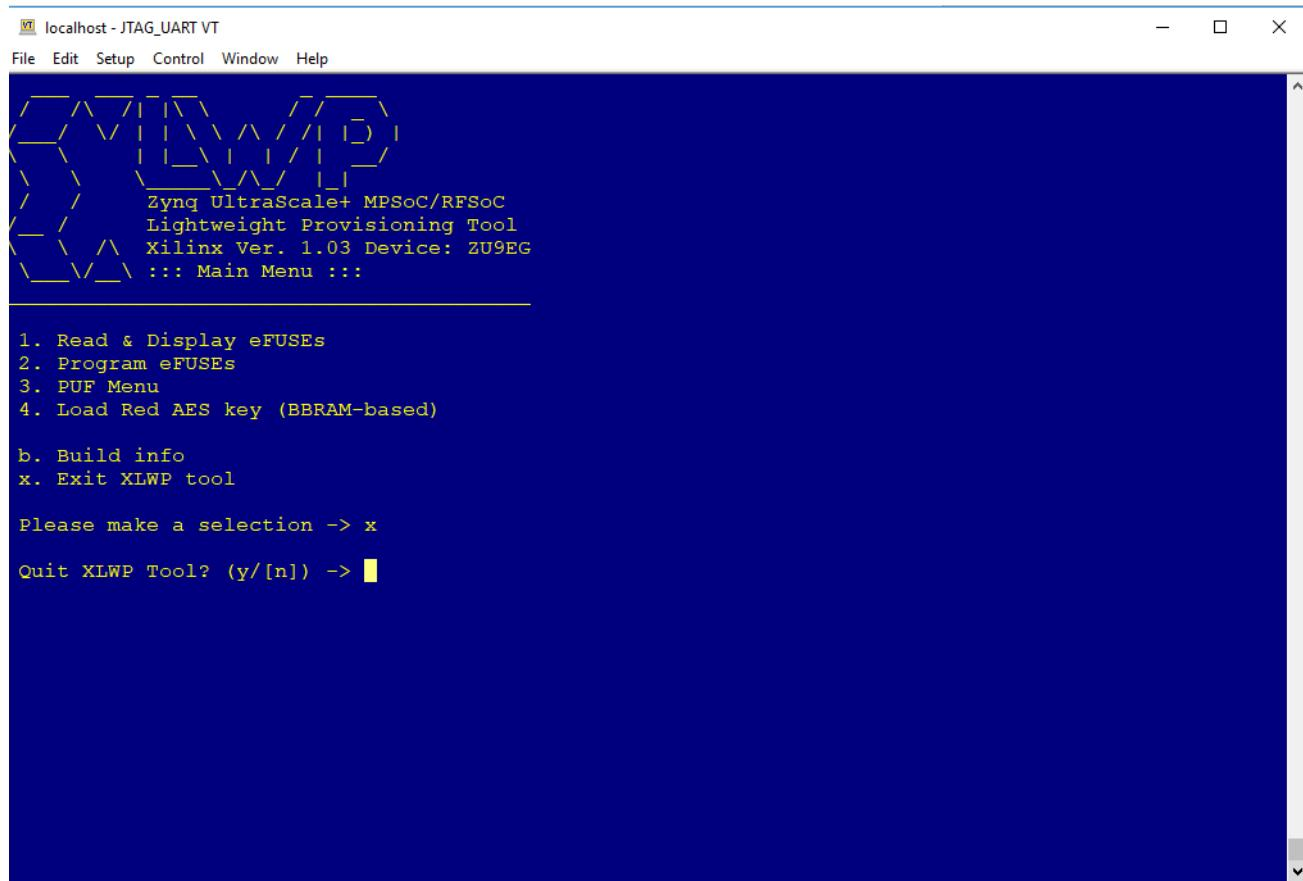

Figure 27: Exiting XLWP Tool
6. Press **x** to quit XLWP tool and then **y** for "Quit XLWP tool" instruction (Figure 27).